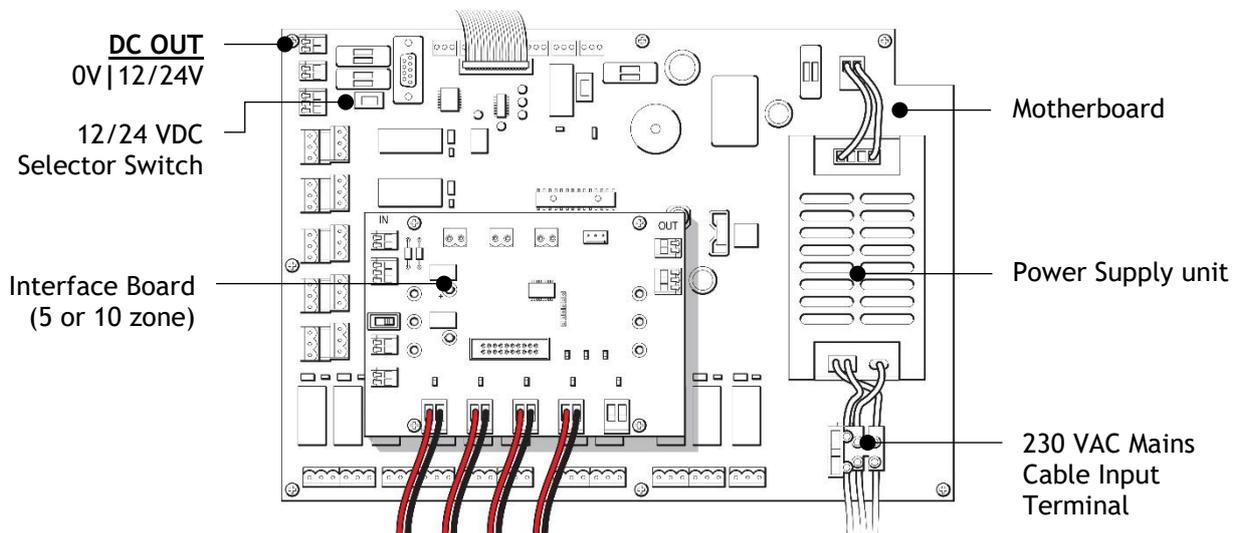

Figure 5: Master Panel Electrical Power Connections
2. Connect the power cable (i.e. Live, Neutral and Earth) to the Master Panel mains cable input terminal (Figure 5).